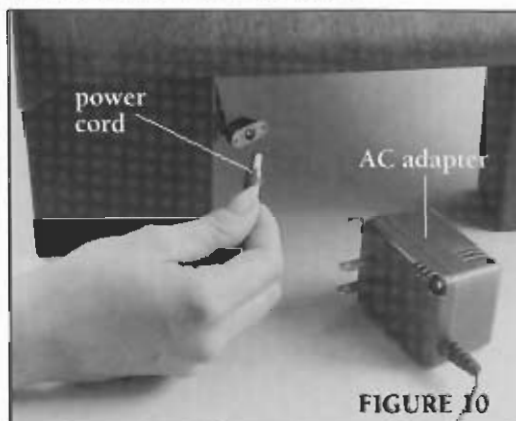

FIGURE 10
5. Connect the motor power cord to the AC adapter (Figure 10). Plug the AC adapter into a wall outlet.